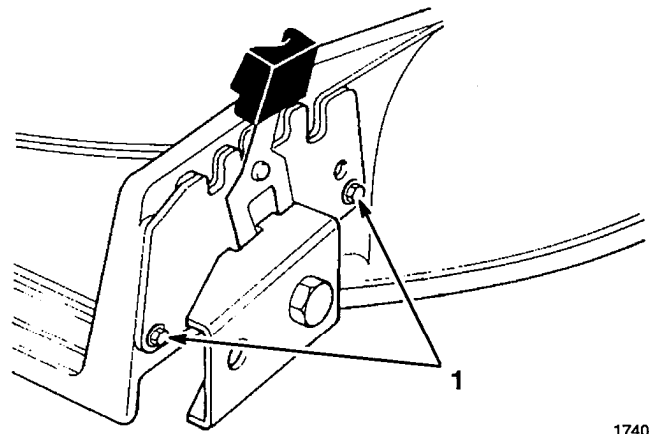

Figure 4
7. Secure wear plate to mower housing with two 1/4-20 thread forming screws (Fig. 4).